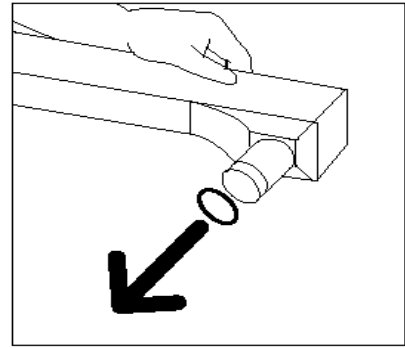

Figure 30: Removing the Fuser Oil Cartridge Cap
- 9** Remove the cap at the end of the Fuser Oil Cartridge, as illustrated in Figure 30.